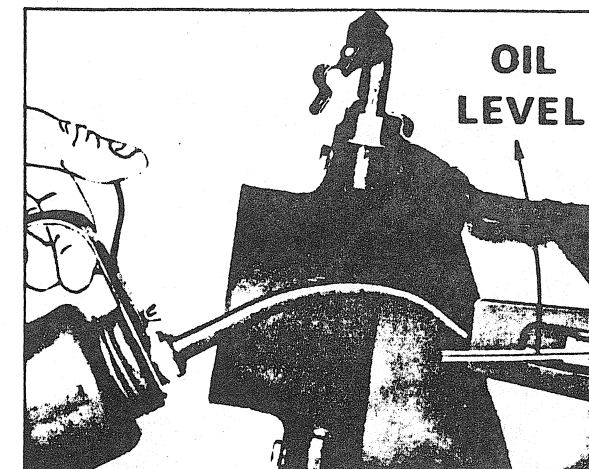

FIGURE 17
- Raise the rear of the vehicle to form a 45° angle with the ground then remove the red oil plug and fill the oil well in the bowl rear at least half full of non detergent oil (SAE 20 non heavy duty type) (fig. 17).